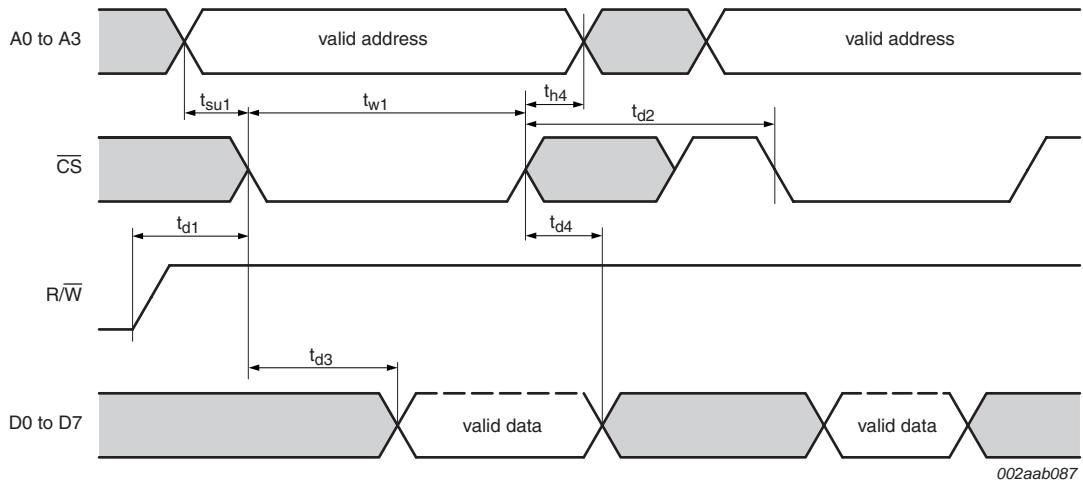

Fig 14. General read timing
(2)  $\overline{CS}$  timing during a read cycle. See Figure 14.